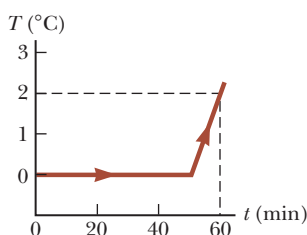

Figure P20.79
**79.** A cooking vessel on a slow burner contains 10.0 kg of water and an unknown mass of ice in equilibrium at  $0^\circ\text{C}$  at time  $t = 0$ . The temperature of the mixture is measured at various times, and the result is plotted in Figure P20.79. During the first 50.0 min, the mixture remains at  $0^\circ\text{C}$ . From 50.0 min to 60.0 min, the temperature increases to  $2.00^\circ\text{C}$ . Ignoring the heat capacity of the vessel, determine the initial mass of the ice.